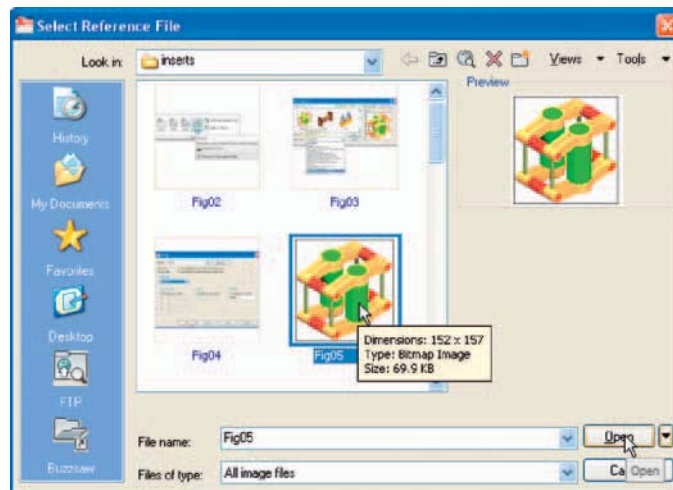

Fig. 10.9 The Select Reference File dialog
1. Click **Raster Image Reference...** from the **Insert** drop-down menu (Fig. 10.8). The **Select Reference File** dialog appears (Fig. 10.9). Click the file name of the image to be inserted, in this example **Fig05** (a bitmap *.bmp). A preview of the bitmap appears in the **Preview** area of the dialog.